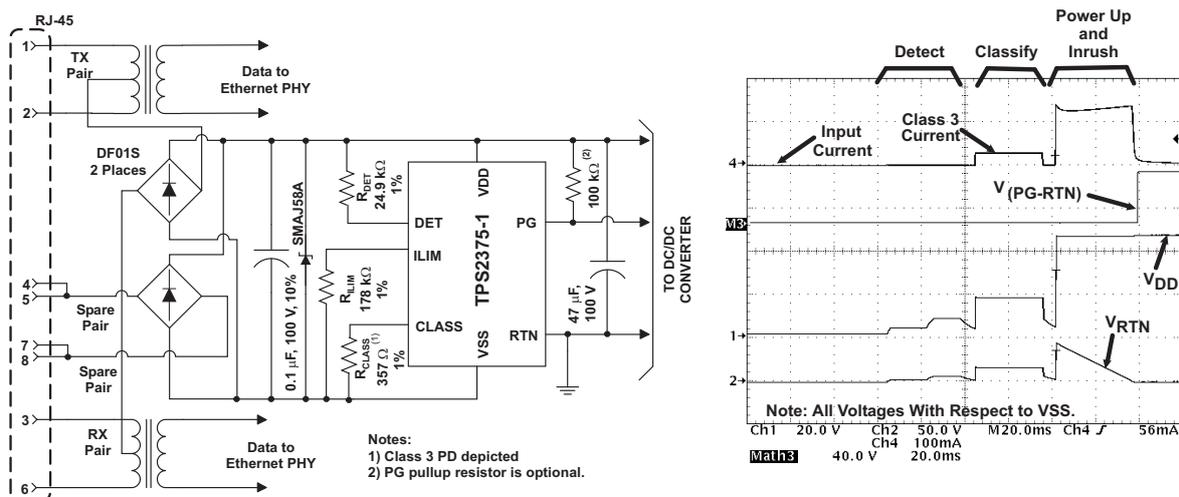

Figure 1. Typical Application Circuit and Start-Up Waveforms
(1) Stresses beyond those listed under “absolute maximum ratings” may cause permanent damage to the device. These are stress ratings only, and functional operation of the device at these or any other conditions beyond those indicated under “recommended operating conditions” is not implied. Exposure to absolute-maximum-rated conditions for extended periods may affect device reliability.
(2) I_(RTN) = 0
(3) SOA limited to V_(RTN) = 80 V and I_(RTN) = 515 mA.
(4) Surges applied to RJ-45 of Figure 1 between pins of RJ-45, and between pins and output voltage rails per EN61000-4-2, 1999.